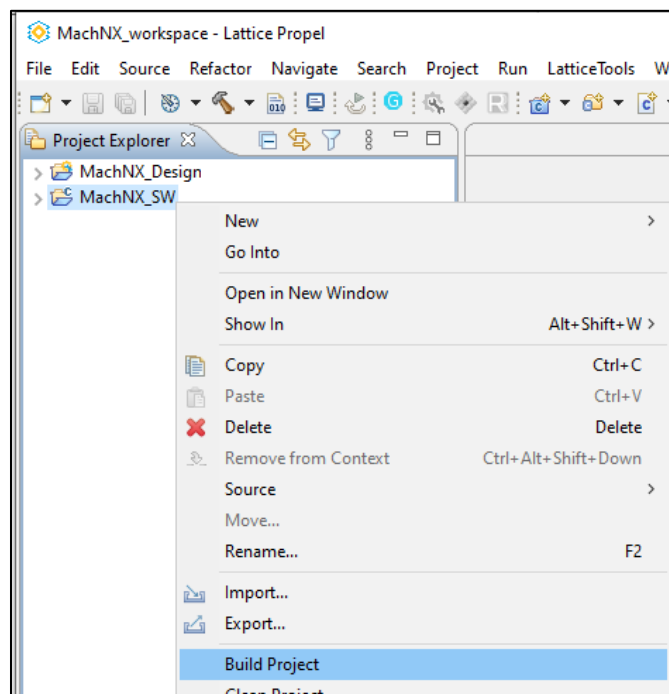

Figure 3.20. Build Project Option
1. Build the project. Right-click the software project in the **Project Explorer** tab and select **Build Project**. The console window at the bottom of the screen displays the output, as shown in Figure 3.20. This indicates a successful compilation.